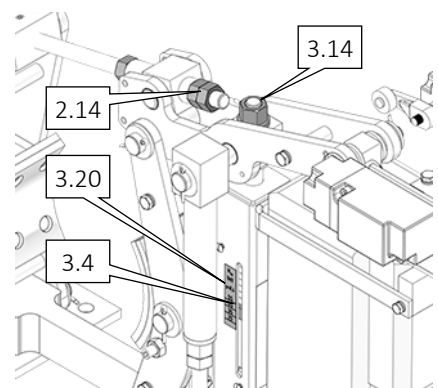

Figure 6
- 13 Rotate nut (3.14) clockwise until the upper edge (3.4) of the torque indicator shows about 1/3 of the nominal braking torque (3.20) (see Figure 6).